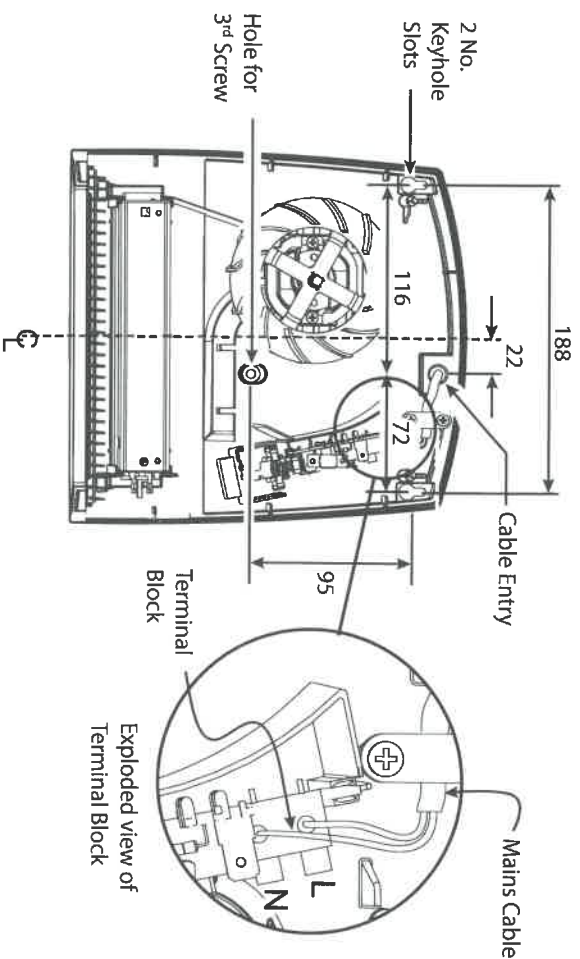

Fig. 2
1. The appliance should be fitted horizontally, with the cable entry at the top and grille at the bottom. It must be mounted not less than 900mm above the floor with a clearance of at least 600mm to any shelf or projecting surface below the heater and not less than 300mm below the ceiling or other projecting surface. It must also be not less than 250mm from an adjacent projecting surface. For most effective heating performance, the heater should be mounted at the minimum height; i.e. 900mm above the floor. Care must be taken to ensure that when in use, the air stream is not obstructed. The appliance is secured to the wall with three screws, two through keyhole slots and one through a hole to hold the appliance firmly in position (see Fig. 2)
2. Mark the position of the two keyhole slots (see Fig. 2 for dimensions) on the wall and drill and plug for the two suitable screws.
7. Make electrical connections to the terminal block ensuring that the live connection is made to the terminal marked 'L' and the neutral connection to the terminal marked 'N' (see Fig. 2 detailed view).